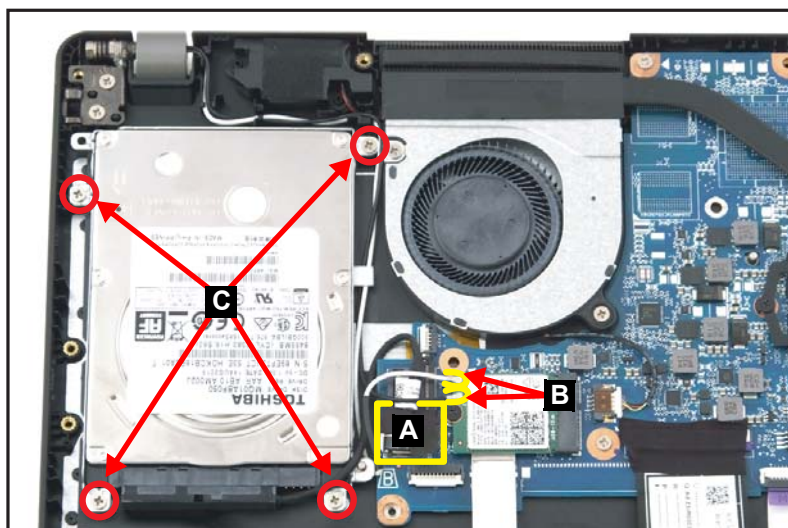

Figure 1-21. HDD Module Removal
1. Disconnect the WLAN antenna cables (B) from the WLAN module connectors (Figure 1-21).
2. Detach the adhesive tape (A) from the mainboard (Figure 1-21).
3. Remove four (4) screws (C) securing the HDD bracket (Figure 1-21).